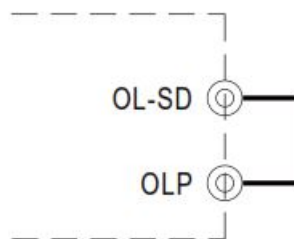

Fig. 5.1 Insert the CN3
2. Remove the shorting connector on CN3 that is shown in Fig 5.1, the Overload Protection Type will be "continuous constant current limiting".